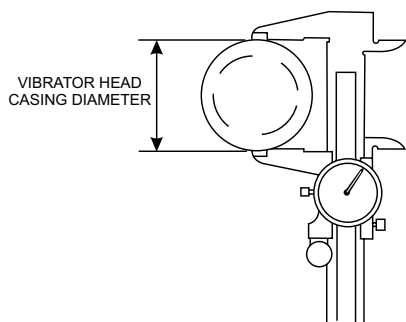

Figure 13. Vibrator Head Diameter
1. Periodically measure the outside diameter (Figure 13) of the vibrator head casing.